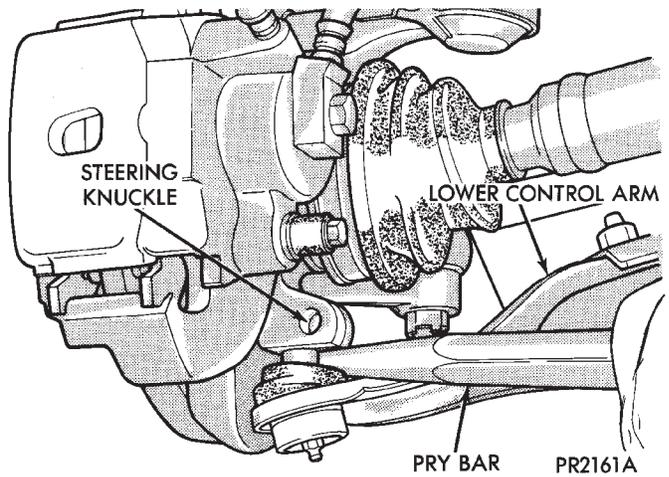

Fig. 8 Separate Ball Joint from Knuckle
(3) Separate ball joint stud from steering knuckle by prying against knuckle leg and control arm (Fig. 8).
CAUTION: Do not damage ball joint or C/V joint boots (Fig. 8).